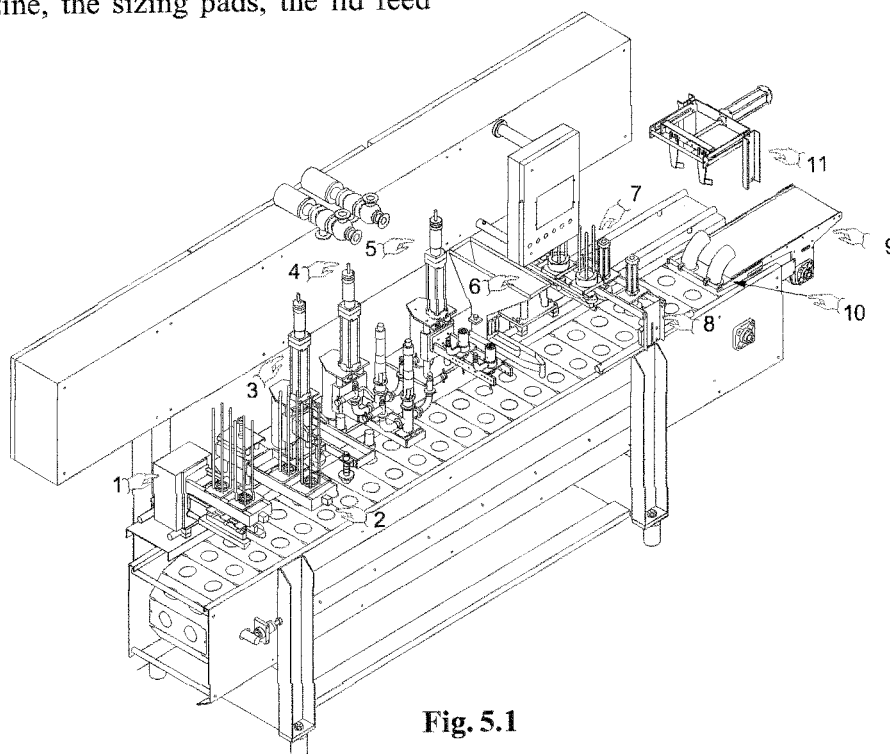

Fig. 5.1
- cone feed (*Part. 1, Fig. 5.1*);
- chocolate dosing and spray (*Part. 3, Fig. 5.1*);
- one or more ice cream or one or two flavour ice cream mix dosing stations (*Part. 4, Fig. 5.1*);
- topping (*Part. 5, Fig. 5.1*);
- granule (*Part. 6, Fig. 5.1*);
- lid positioning (*Part. 7, Fig. 5.1*);
- lid sealing (*Part. 8, Fig. 5.1*);
- product ejector (*Part. 10, Fig. 5.1*);
- product unloading belt (*Part. 9, Fig. 5.1*);
- cup feed (*Part. 2, Fig. 5.1*);
- ice cream or one or two flavour ice cream mix doser (*Part. 4, Fig. 5.1*);
- product ejector (*Part. 11, Fig. 5.1*);
- product unloading belt (*Part. 9, Fig. 5.1*).
- cone/cup feed (*Part. 2, Fig. 5.1*);
- chocolate spray (*Part. 3, Fig. 5.1*);
- one or two flavour ice cream or ice cream mix dosing stations (*Part. 4, Fig. 5.1*);
When changing format from cones to cups, the lamella set needs to be changed, the cup feed and relative suckers need to be installed, the lid feed magazine changed, the cone crimpers need to be replaced with lid presses, and the cone ejector station (*Part. 10, Fig. 5.1*) replaced with the cup ejector (*Part. 11, Fig. 5.1*) and the relative ejector disks.